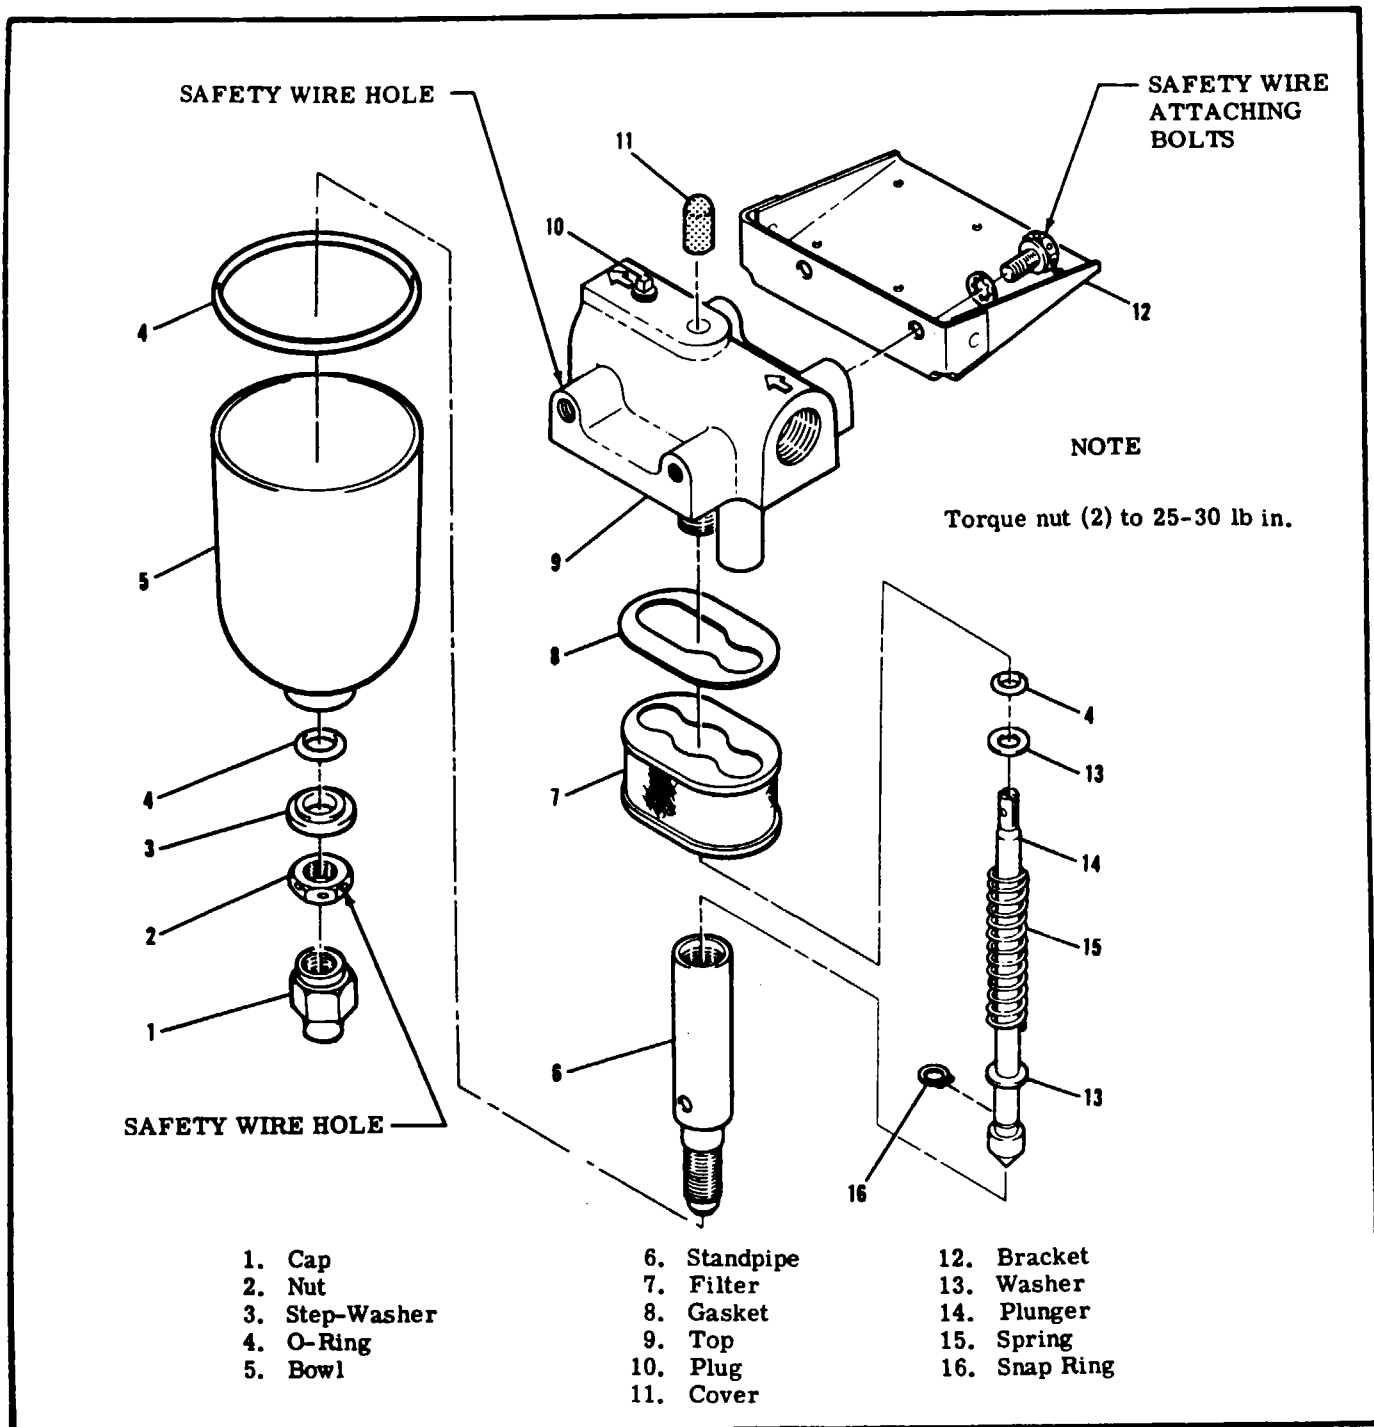

Figure 12-8. Fuel Strainer
b. (Beginning with 177RG0283 and F177RG0063). The reservoir tank drain valve control is located in the floorboard area directly beneath the pilot's seat. The control is illustrated in figure 12-8.
2. Referring to figure 12-8, remove screws attaching extension arm (2) to arm assembly (7).
3. Remove screws attaching cover (3); remove cover.
4. Remove screws attaching angle (4) to arm assembly (7).
5. Remove nut from forward end of control (10) at angle (4).
6. Remove pin (9) from control (10) inside bracket (1).
7. Remove nut from threaded end of control (10) inside bracket (1).
11. Pull single control (10) aft out of bracket (1).